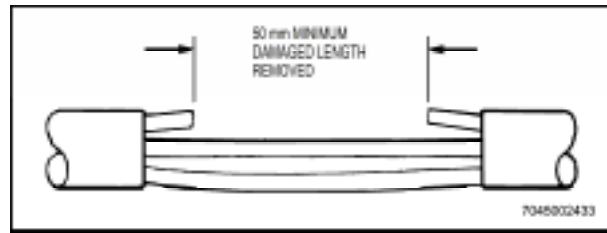

Figure 5-19 Wire With Damaged Section Removed
- h. Cut wires to remove damage. If a segment of damaged wire must be cut out, remove at least 50 mm total length. (Figure 5-19). If damage is at a single point, damaged wire can be cut at the point of damage.